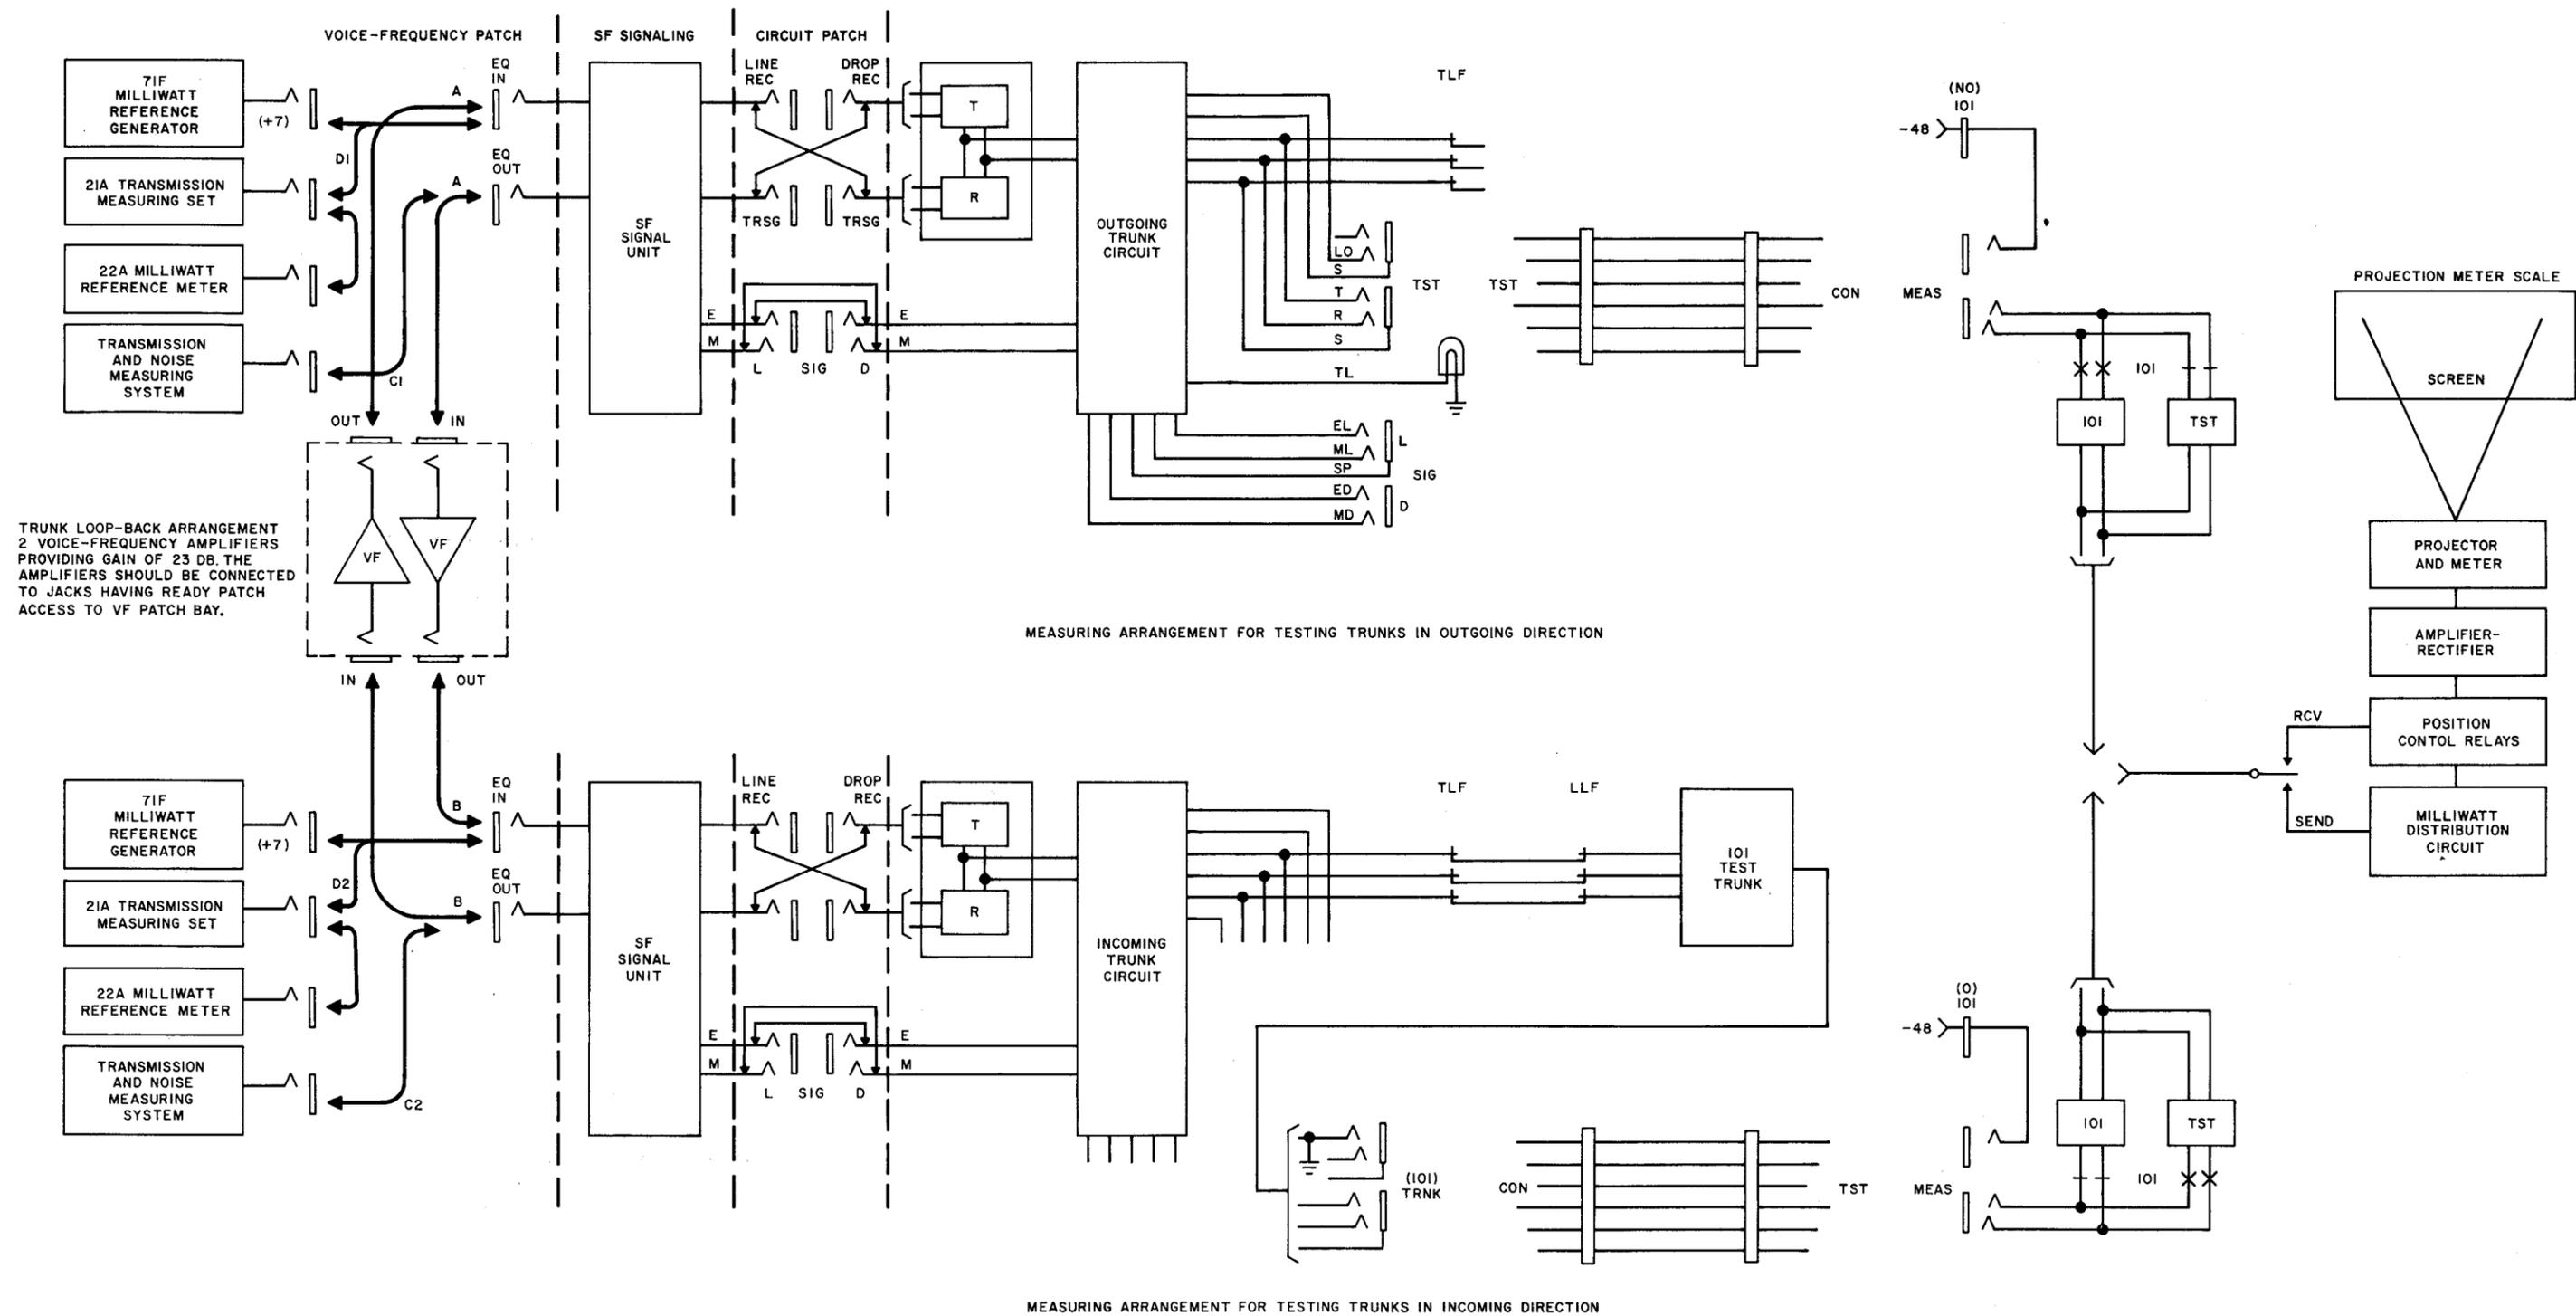

Fig. 1 — Measurement and Adjustment of Office Losses
1.11 Test connections for making office wiring loss measurements on trunks in outgoing and incoming directions are shown in Fig. 1. Also shown is a loop-back arrangement which may be used for establishing correct connections through the switches without involving the distant terminal. This arrangement is used only for establishing the proper circuit and is not used during measurements. If such an arrangement is not available, assistance from the distant end will be required in establishing the circuits for measurements.
1	<p>Note: If tests and adjustments are to be made on trunks already in service, the trunks should be removed from service at each end while this procedure is being performed. Terminate the carrier channels at the MOD IN and DEMOD OUT jacks with 600-ohm terminations.</p> <p>At VF Patch Bay: Connect A and B patches shown in Fig. 1 making a loop-back circuit within the office.</p>
5	Patch EQ OUT jack of outgoing trunk under test to TST-600 jack of transmission measuring system (C1 patch, Fig. 1).
8	At VF Patch Bay: Remove the patches previously made to the EQ IN and EQ OUT jacks of the outgoing trunk under test. Terminate the EQ OUT jack in 600 ohms. Patch the EQ IN jack to the calibrated $1000 \bullet +7 \bullet 600$ jack or to the OSC OUT jack (D1 patch, Fig. 1). If oscillator is used, adjust output to 1000 cycles at $+7$ dbm.
1	<p>At VF Patch Bay: Connect A and B patches shown in Fig. 1 making a loop-back circuit within the office.</p>
3	<p>At VF Patch Bay: Remove A and B patches made in Step 1. Terminate EQ IN jack of incoming trunk under test in 600 ohms.</p> <p>Connect patch between EQ OUT jack of incoming trunk and TST-600 jack of transmission measuring system (C2 patch, Fig. 1).</p>
8	<p>Connect EQ IN jack of incoming trunk under test to 1000•+7•600 jack or to OSC OUT jack (D2 patch, Fig. 1). If the oscillator is used, adjust the output to 1000 cycles at +7 dbm using 22A reference meter.</p> <p>At Testboard: Operate SEND-RCV key to RCV. Read received signal level on meter and determine loss.</p> <p>If the loss just determined differs from the computed value (EML), substitute an 89-type resistor in the R pad as required to obtain the EML, ± 0.13 db. If a change in level greater than 1 db is required, investigate the possibility of equipment deficiencies before making the change.</p>